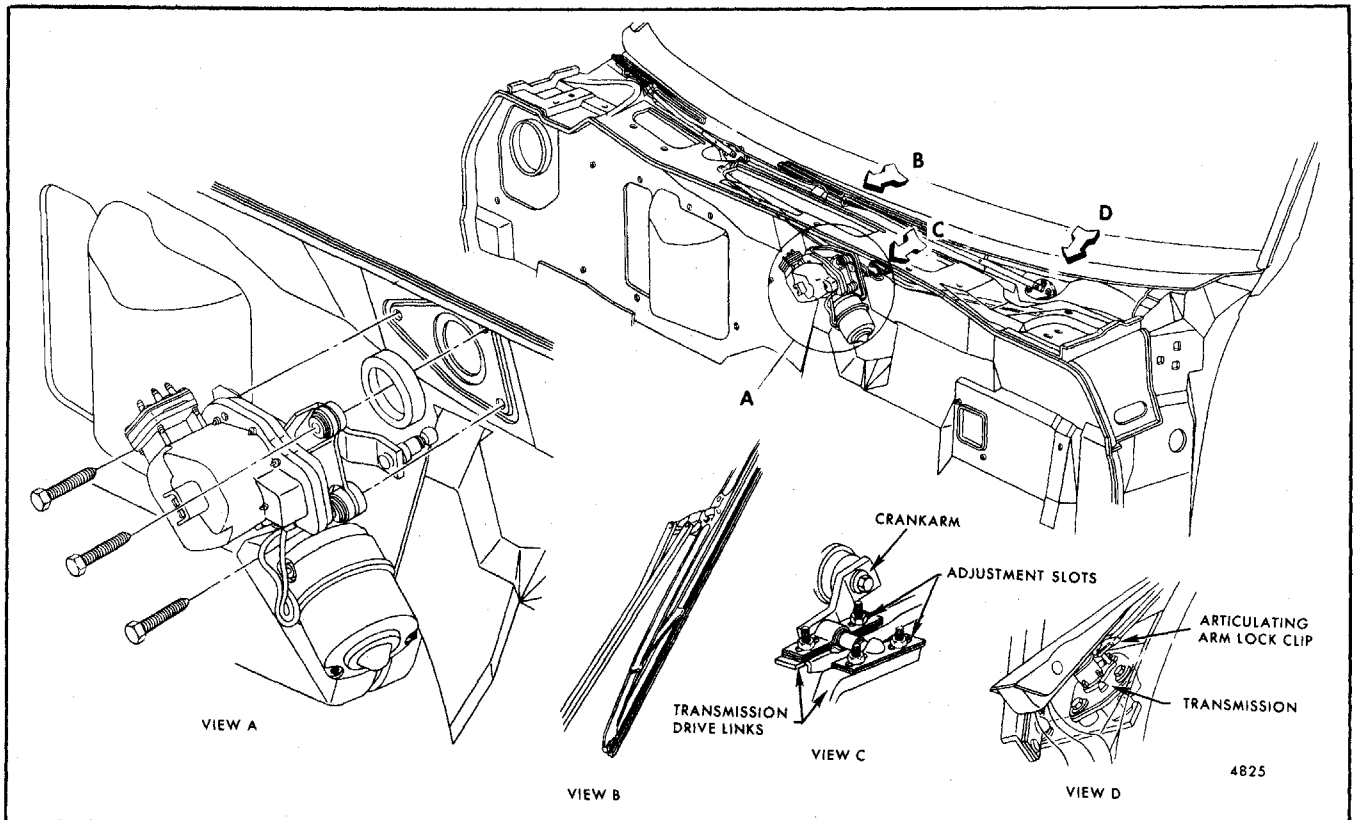

Fig. 2-54-Round Motor and Transmission Installation - E Styles
2. Loosen transmission drive link to crank arm attaching nuts (Fig. 2-54, 2-55, 2-56 or 2-60).
5. On E styles at left arm, slide articulating arm lock clip away from transmission pivot pin (Fig. 2-54) and lift arm off pin.
3. Loosen, do not remove, the transmission drive link to motor crank arm attaching nuts (Fig. 2-54, 2-55 or 2-60). On E styles, if only one arm and blade assembly requires adjustment, loosen only the drive link to crank arm attaching nuts for the unit requiring adjustment.